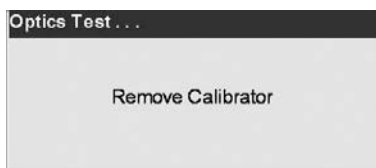

Fig. 7-18 Remove Calibrator
- At the completion of the test, a printout of the results will be printed and the **<Remove Calibrator>** message will be displayed (Fig. 7-18).